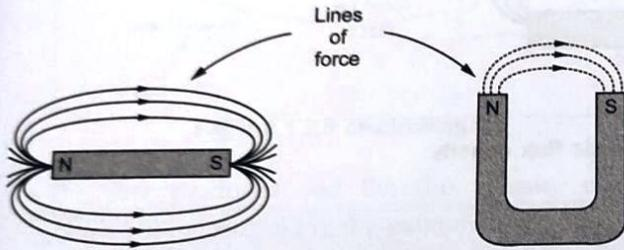

Fig. 1.3.1 Concept of magnetic flux density
- The lines of force for a bar magnet and U-shaped magnet are shown in the Fig. 1.3.1.